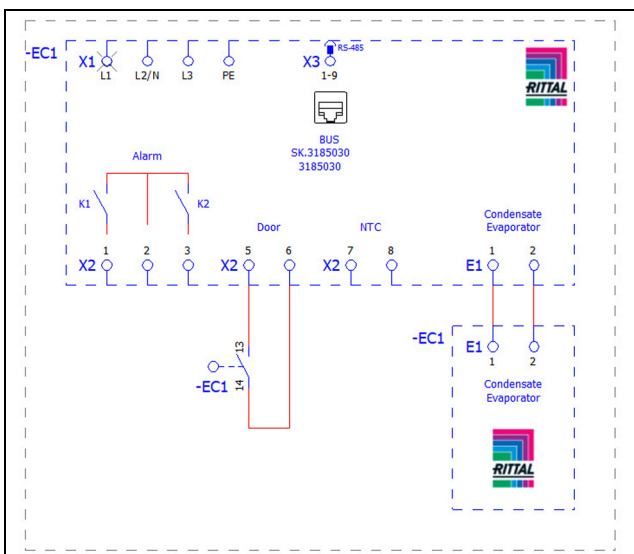
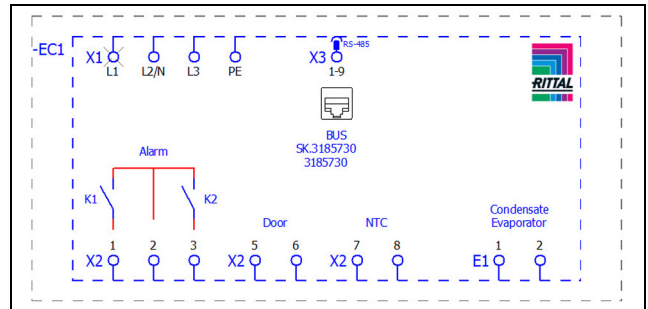

Fig. 16: Circuit diagram 3185030
Fig. 17: Circuit diagram 3185730
- Remove the mains connector from the dispatch bag and connect to the mains as shown on the connection diagram (fig. 16 or fig. 17).